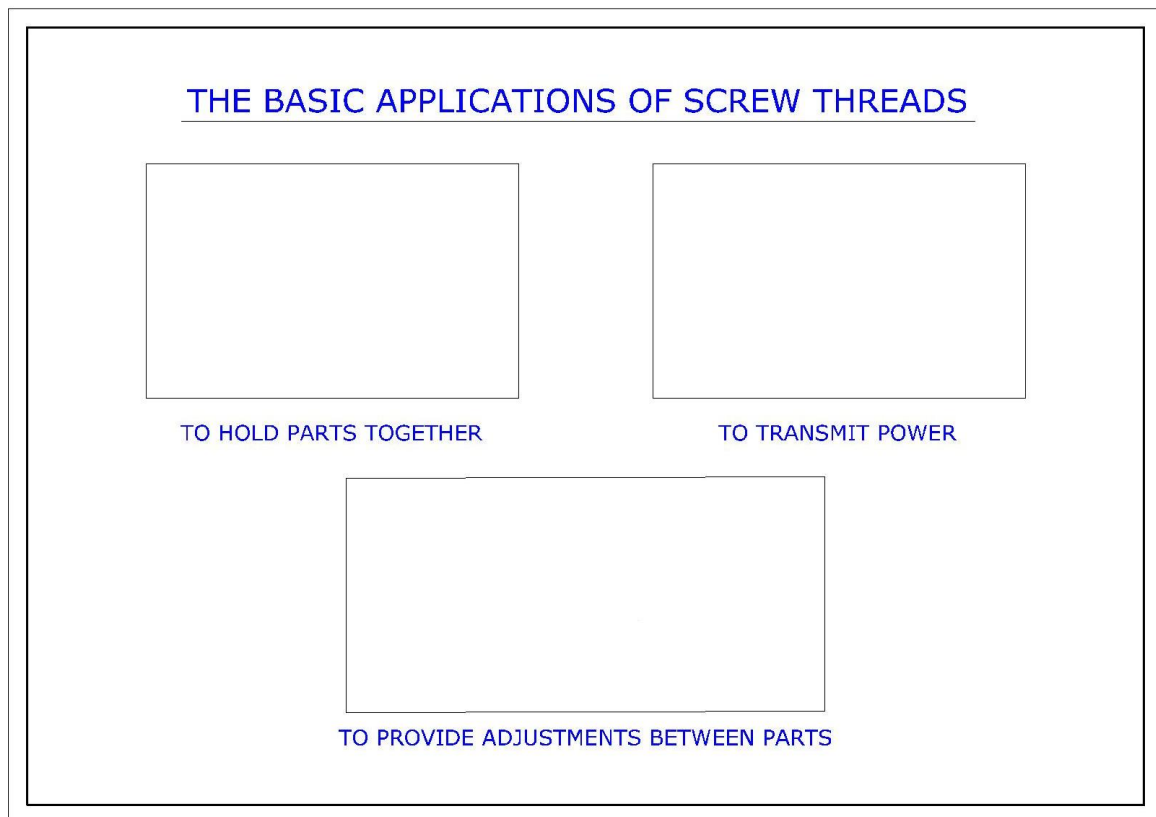

Figure 4
- a) draw **THREE** freehand sketches to illustrate an example of each function listed above. (18)
- b) neatly print the main title 'THE BASIC APPLICATIONS OF SCREW THREADS' and label each sketch as suggested in Figure 4. (2)